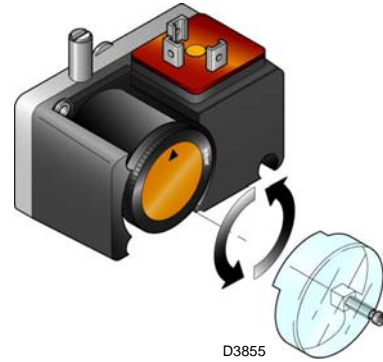

Fig. 33
- Adjust the minimum gas pressure switch (Fig. 33) to the start of the scale.
Adjust the minimum gas pressure switch (Fig. 33) after having performed all the other burner adjustments with the pressure switch set at the start of the scale.